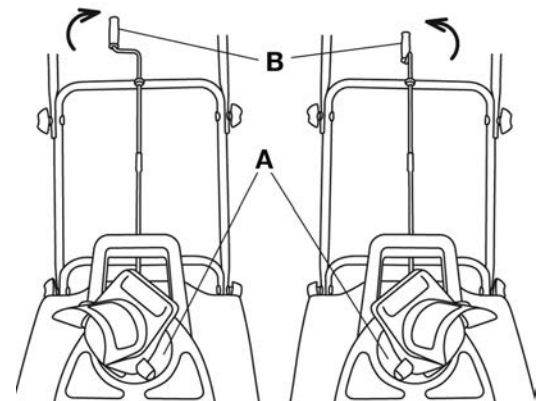

FIGURE 21
1. The discharge chute (A) Fig.21 can be adjusted 180 degrees by rotating the chute crank (B). Rotate the chute control crank (B) clockwise to move the discharge chute (A) to the left, counterclockwise to move the chute to the right.